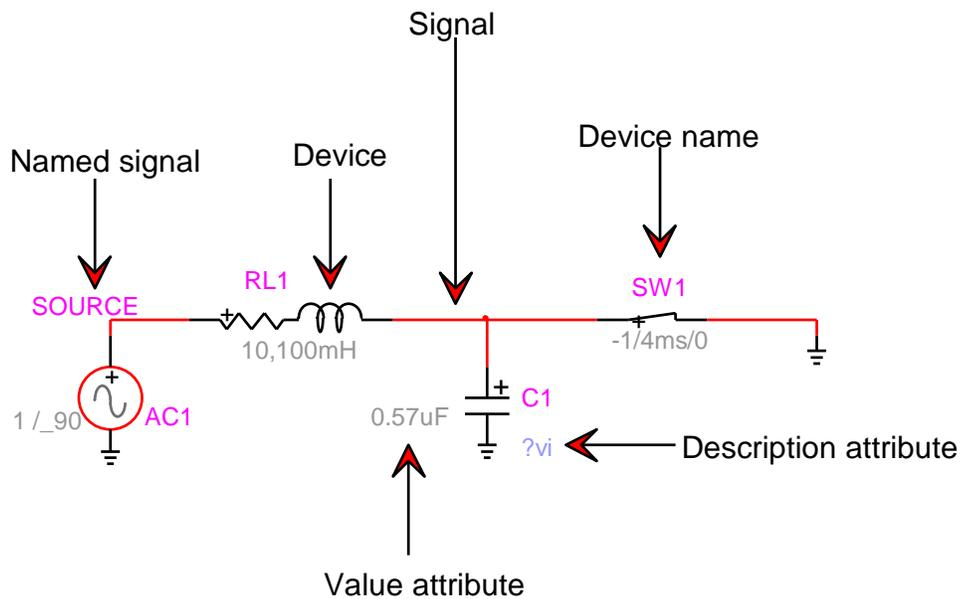

Figure 2 Simple first example
The top part of the circuit above is shown in Figure 2. All devices, signals and names can be clicked and right-clicked for entering data or controlling other aspects. The circuit itself also has a right-click menu.
- After creating the design circuit of Figure 2 the following steps must be followed to run a simulation:
Some devices have color coding options. The voltage source in Figure 2 is shown with a red line to indicate that it is active in the steady-state solution of EMTP.